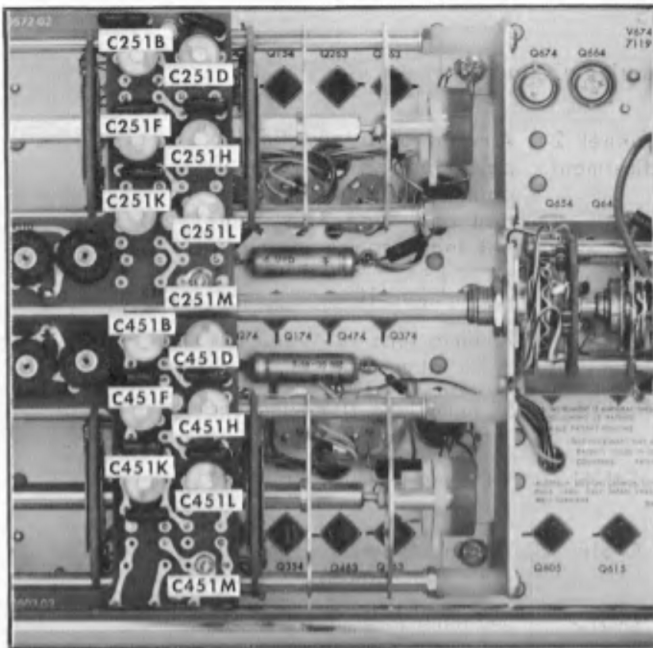

Fig. 6-18. Location of 10 mV through 0.1 mV high frequency compensation capacitors for channels 1 and 2.
- h. ADJUST—See Table 6-5 and Fig. 6-18 for the component number and location to be adjusted to make the lower right-hand corner of the display an optimum square corner.
- g. ADJUST—See Table 6-5 and Fig. 6-18 for the component number and location to be adjusted to make the lower right-hand corner of the display an optimum square corner.